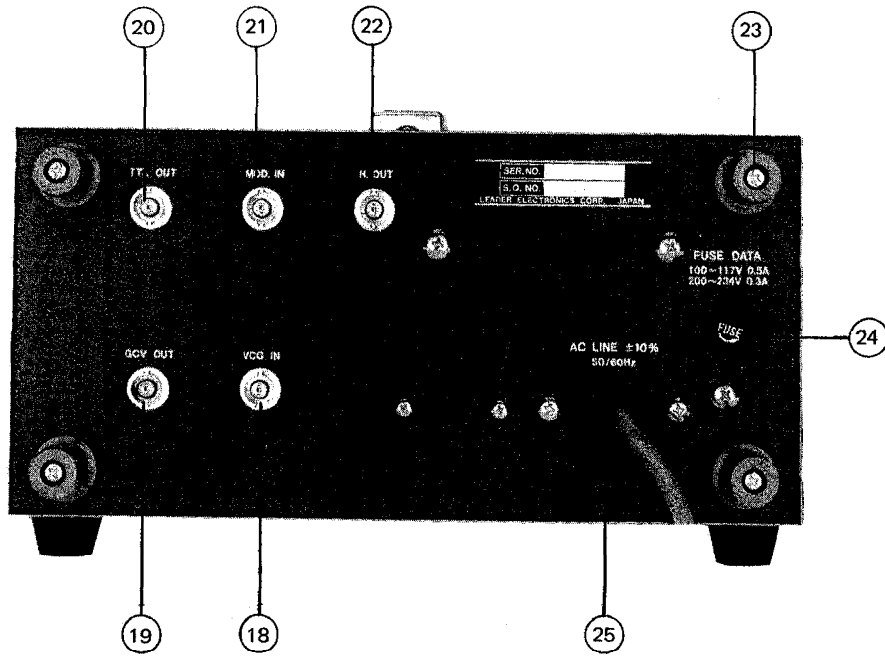

Figure 4-2.
**Rear Panel. Refer to Fig. 4-2.**